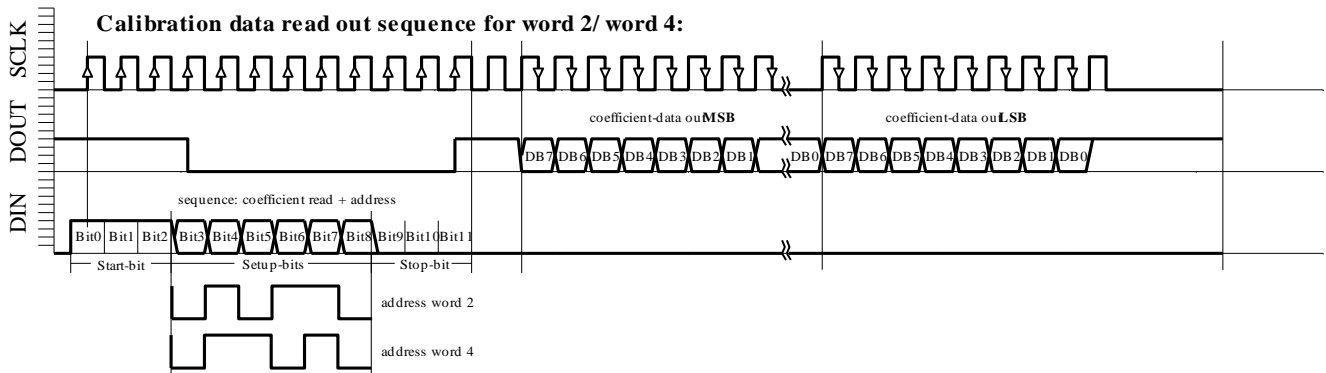

Fig. 6d: W2, W4 READING sequence
- ◆ Calibration data read-out sequence for Word2 (Figure 6d)
- ◆ Calibration data read-out sequence for Word4 (Figure 6d)